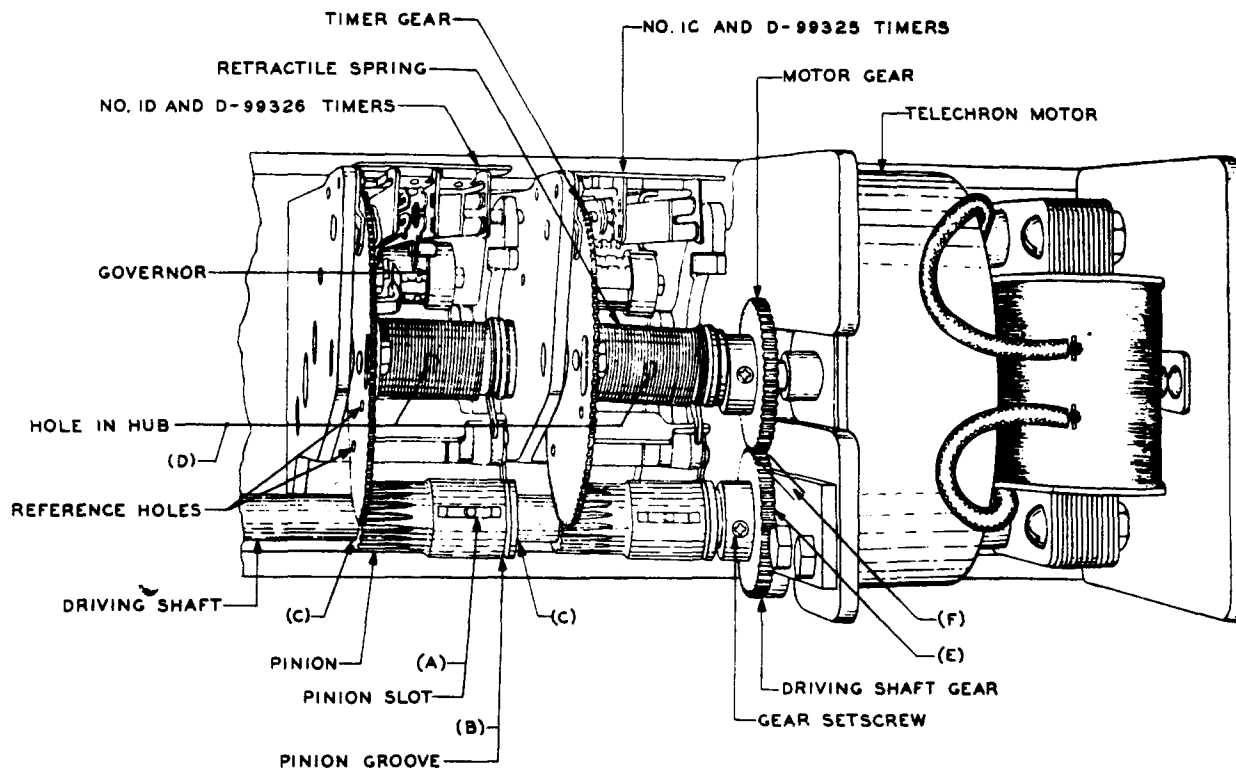

Fig. 2 - Timers and Associated Drive Assembly
- (1) Two discharges distributed evenly around the circumference of the driving shaft at each support bearing (one discharge on each side of the support) and two discharges at the left and right thrust bearings.
- (2) Fig. 2(A) - One discharge to the slot in the pinion.
- (3) Fig. 2(B) - One discharge to the groove in the pinion.
- (4) Fig. 2(C) - Two discharges distributed evenly around the circumference of the shaft at each end of the pinion.
- (5) Fig. 2(D) - Three discharges to the hole in the hub of the gear shaft.
2.04 End Play of Driving Shaft: Fig. 2(E) - With the driving shaft motor stopped the end play of the shaft shall be
- (c) Fig. 2(F) - The teeth of the motor and driving shaft gears shall engage for their full width, at one point in the position of the gears, when they are moved back and forth in opposite directions to the extreme limits of motor and driving shaft end play. In no case, however, shall the engagement be less than 1/2 the width of the gear.